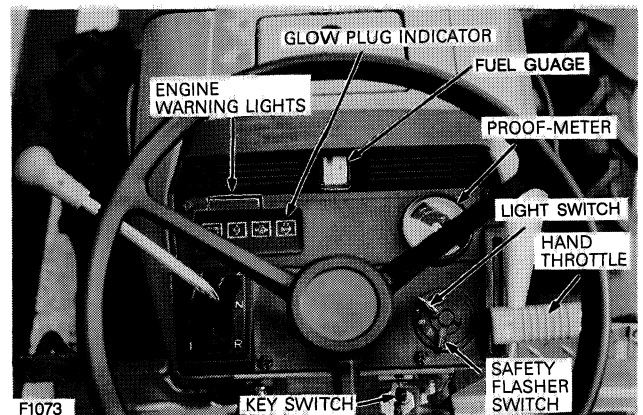

Figure 5 - Instrument Panel
The key switch is shown in Figure 5. Turning the key to the left will activate the cold-start aid. Turning the key to the right to the "on" position will activate the warning lights and instruments. Turning the key further right to the "start" position will start the engine. Upon release, the key will spring return to the "on" position.
The engine temperature, oil pressure and charge indicator warning lights are located as shown in Figure 5. When the key switch is turned "on" the oil pressure and charge lights come on. After the engine has been started, the lights should go out within a few seconds. If they do not go out :
The Proof-Meter is located on the left side of the instrument panel, Figure 5. The Proof-Meter indicates :
- Engine revolutions per minute are indicated on a scale as shown in Figure 5. Use the engine revolutions per minute scale when operating PTO-driven equipment. PTO-driven equipment must be operated at an engine speed not to exceed, that indicated by the yellow line on the rpm scale (2385 rpm on mechanical-transmission tractors. 2300 with hydrostatic transmission). Additional information on P. T. O. operation can be found on page 16. Ground speeds are indicated on a decal attached to the instrument panel (H.S.T.) or to the top of the left fender (mechanical transmission tractor) with engine speeds from 1500 to rated rpm. Additional ground speed information can be found on page 52. The decal on hydrostatic transmission tractors shows ground speed for both ranges.
The hand throttle is shown in Figure 5. Push the throttle forward to increase engine rpm. Pull the throttle rearward to decrease engine rpm. Turning the key switch to the "OFF" position stops the engine.